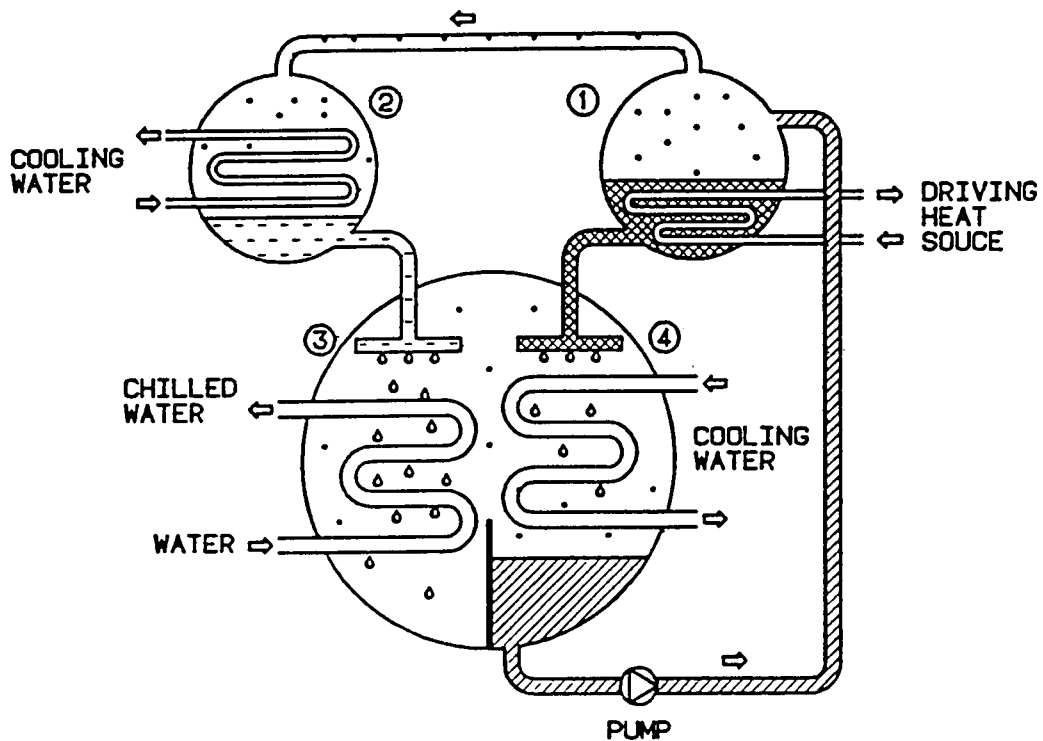

FIG. 1-6
(3) SINGLE EFFECT TYPE (BASIC CYCLE)
As shown Fig.1-6, this is the basic operational cycle of the single effect type absorption chiller. Part ① shows a generator, part ② shows a condenser, part ③ shows an evaporator and part ④ shows an absorber.